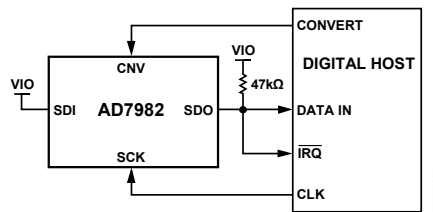
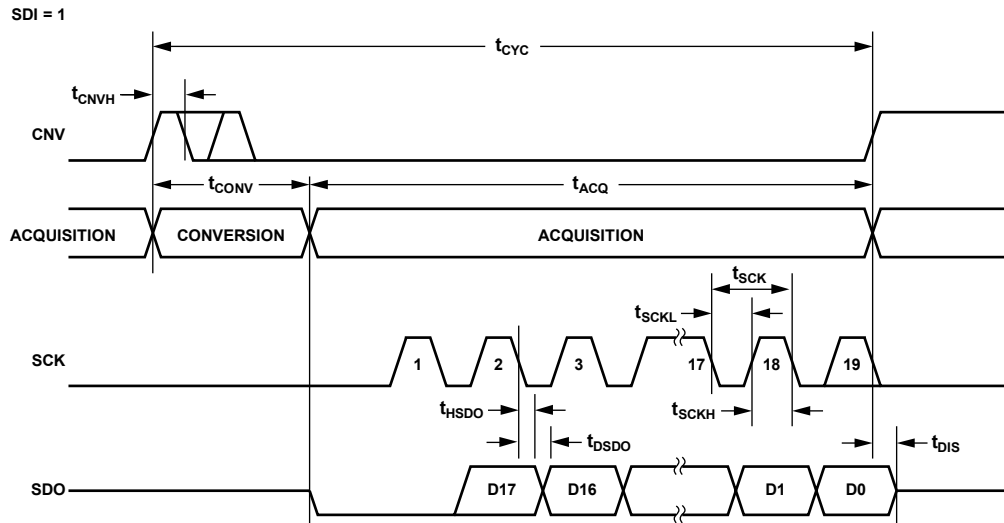
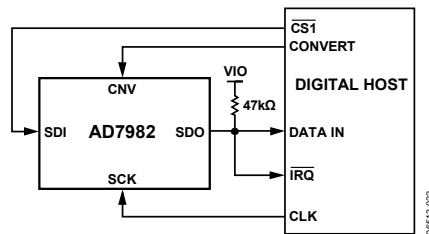
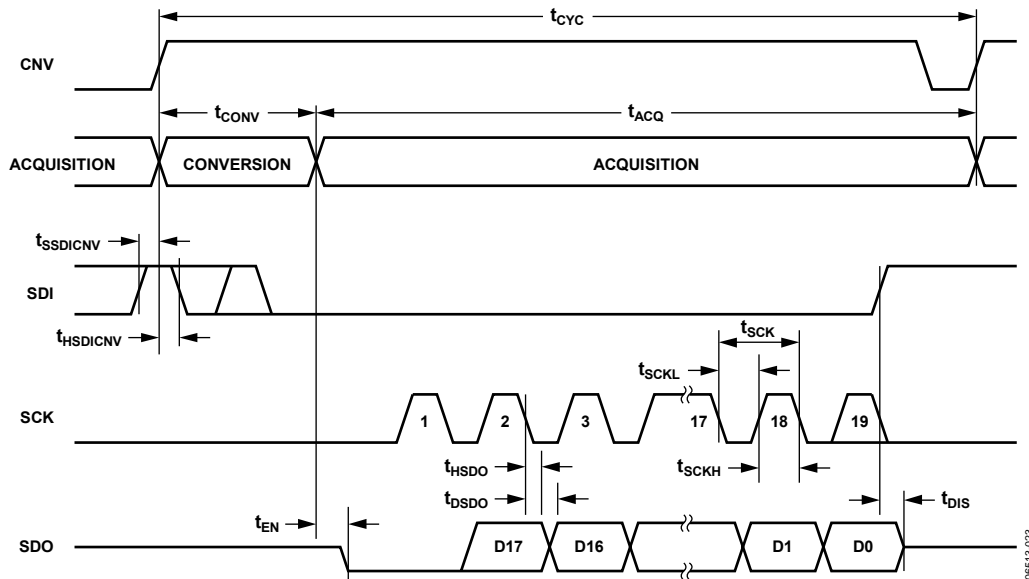

Figure 31.  $\overline{\text{CS}}$  Mode, 3-Wire with Busy Indicator Connection Diagram (SDI High)
Figure 32.  $\overline{\text{CS}}$  Mode, 3-Wire with Busy Indicator Serial Interface Timing (SDI High)
Figure 35.  $\overline{CS}$  Mode, 4-Wire with Busy Indicator Connection Diagram
Figure 36.  $\overline{CS}$  Mode, 4-Wire with Busy Indicator Serial Interface Timing
- In the  $\overline{\text{CS}}$  mode if CNV or SDI is low when the ADC conversion ends (see Figure 32 and Figure 36).
The connection diagram is shown in Figure 31, and the corresponding timing is given in Figure 32.
The connection diagram is shown in Figure 35, and the corresponding timing is given in Figure 36.